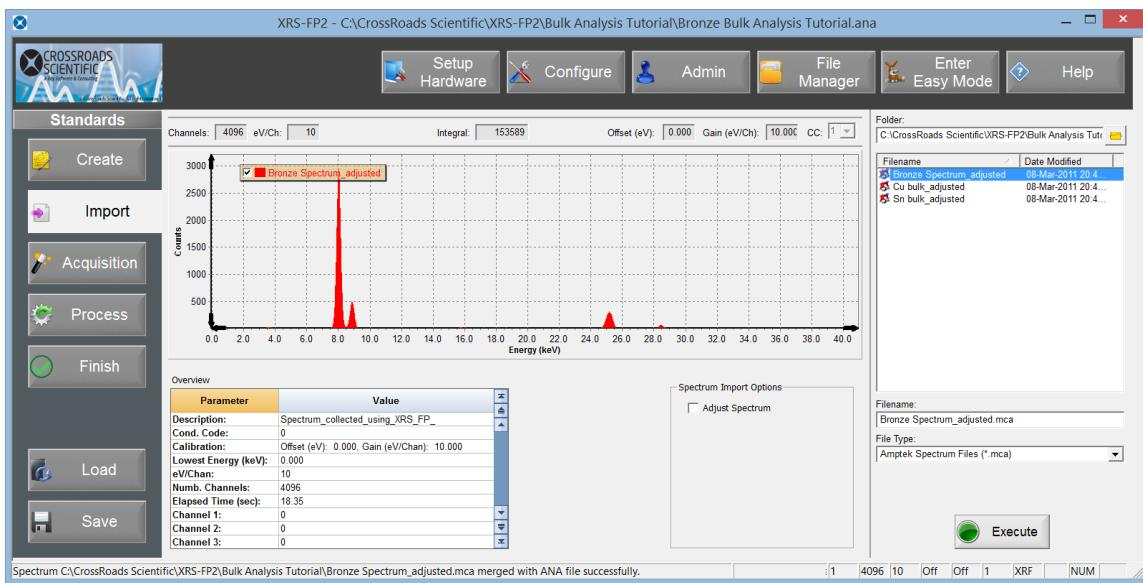

Figure 14. XRS-FP2 Standards Workflow – Import. Import the spectrum for the type standard.
9. Then click on the **Import** button and select the “Bronze Spectrum Adjusted.mca” file to import for our type standard spectrum. Click the **Execute** button in the R-hand panel to import the file. See Figure 14 below. Note that you have the option of importing standard spectra or acquiring spectra from standards for calibration. For the later select the **Acquisition** button in the Standards workflow.